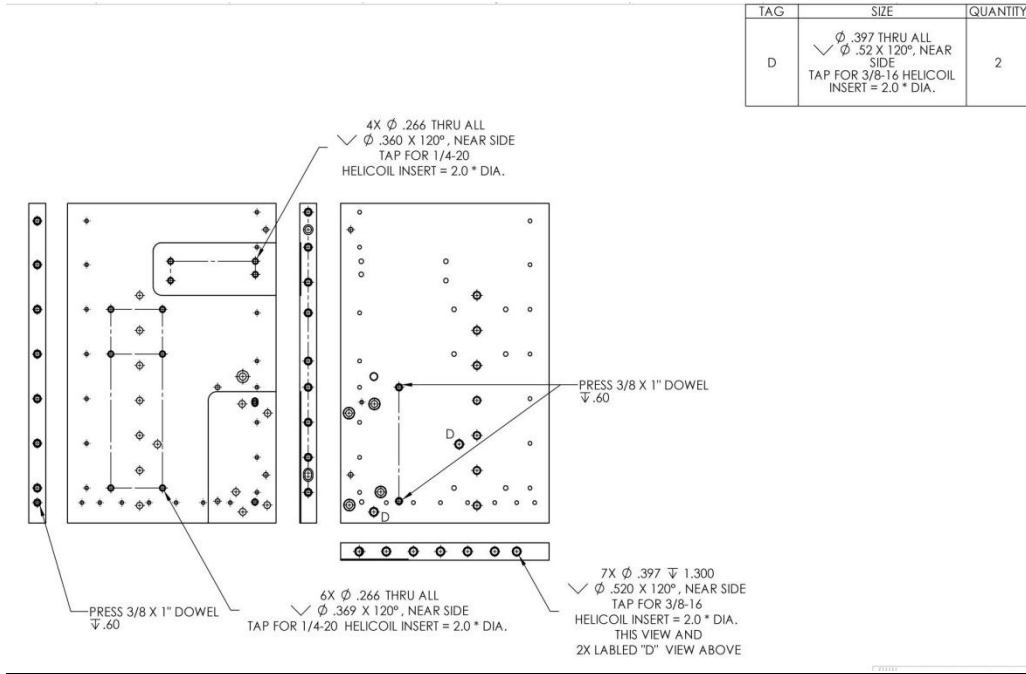

Figure 29
1. Apply Helicoils and dowels as shown Figure 29. Note press depth of dowel pins